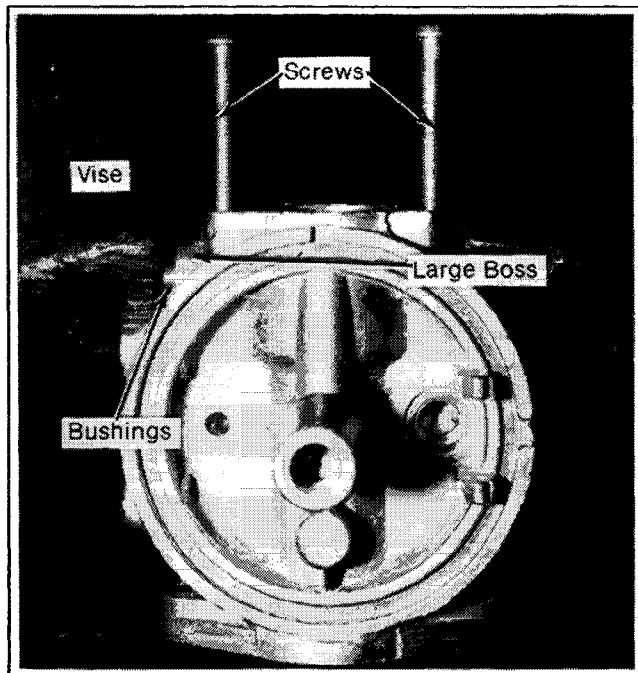

Figure 6-10. Installing Choke Shaft Bushings.
1. Install screws in the tapped holes that enter the choke shaft bores until the screws bottom *lightly*. Refer to Figure 6-10.